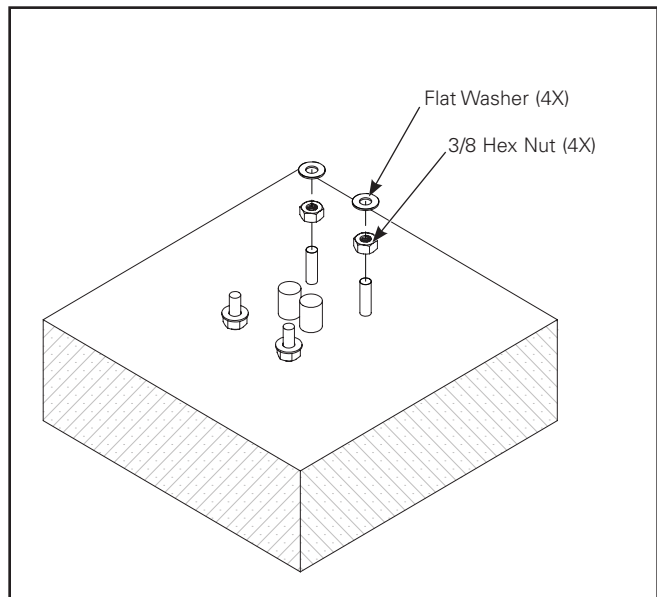

Figure 2.
5. Assemble a 3/8" hex nut on each of the four (4) anchor bolts. Place a washer on each hex nut. (Figure 2)